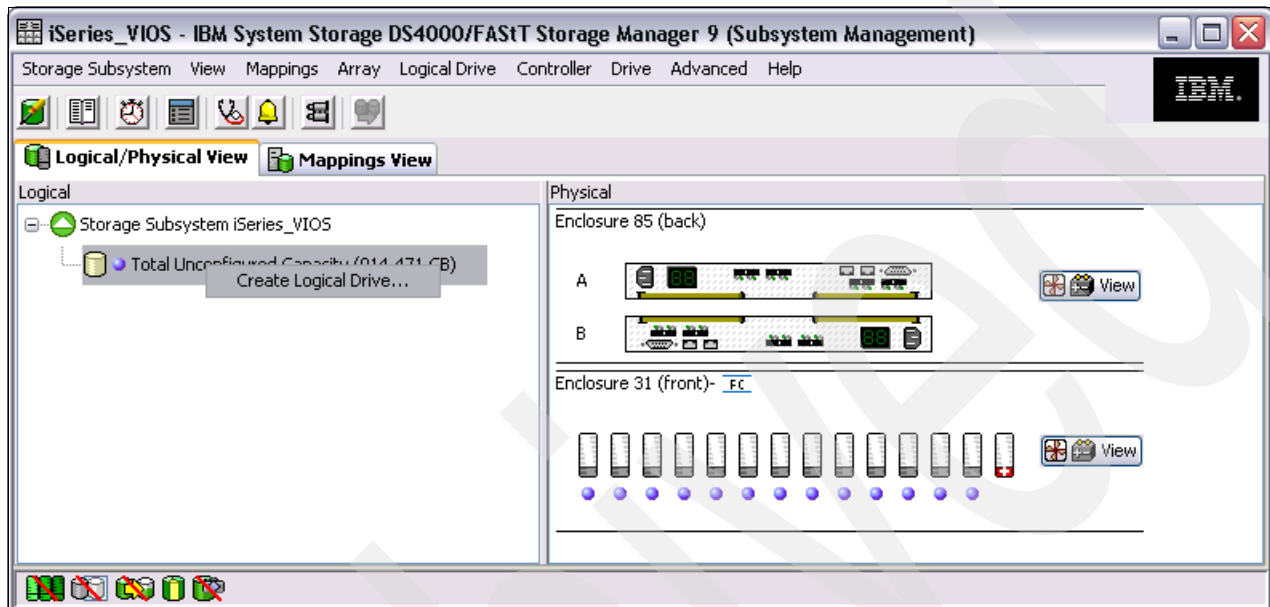

Figure 7-49 DS Storage Manager Create Logical Drive option
1. In the DS Storage Manager client we right-clicked **Total Unconfigured Capacity** of our storage subsystem and selected **Create Logical Drive**, as shown in Figure 7-49.